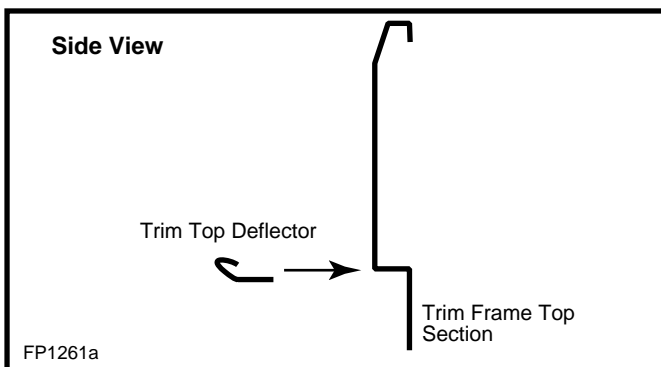

Fig. 42 Trim top deflector.
3. Install the trim top deflector and use two screws to fasten it. (Fig. 42)